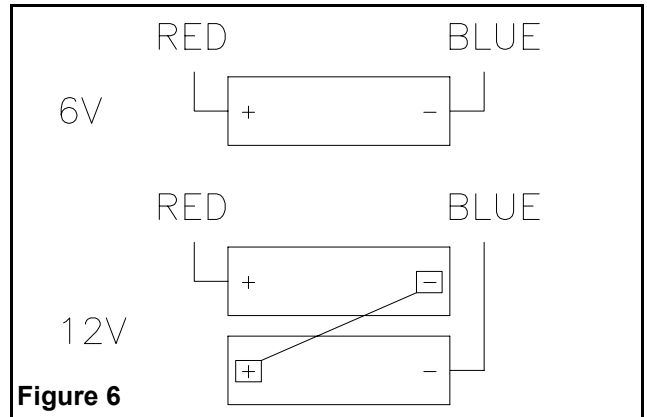

Figure 6
- a. Put batteries and electronic module back in place as shown on figure 5. See figure 6 for batteries wiring diagram.
- c. Put the batteries back in place . Battery heater is placed in between the battery and the backplate. See figure 6 for batteries wiring diagram. Put the electronic module back in place as shown on figure 5.